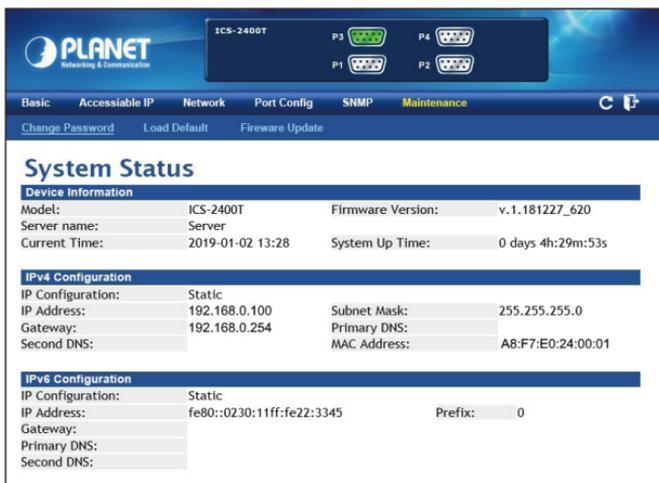

Figure 4-3: Web Main Screen of Industrial Serial Server
3. After entering the password, the main screen appears as shown in Figure 4-3.